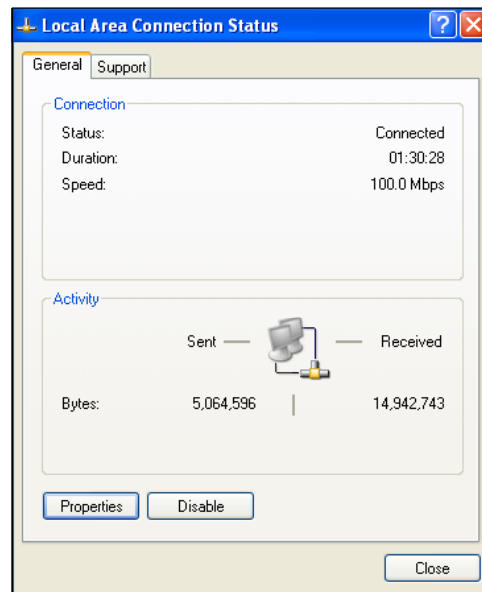

Figure 6: Local Area Connection Status Window
- 3.) In the *Network Connections Window*, double-click the **Local Area Connections** entry. The *Local Area Connection Status Window* will appear (**Figure 6**).
- 4.) As shown in **Figure 6**, click **<Properties>** in the lower left of the window. The *Local Area Connection Properties Window* will appear.